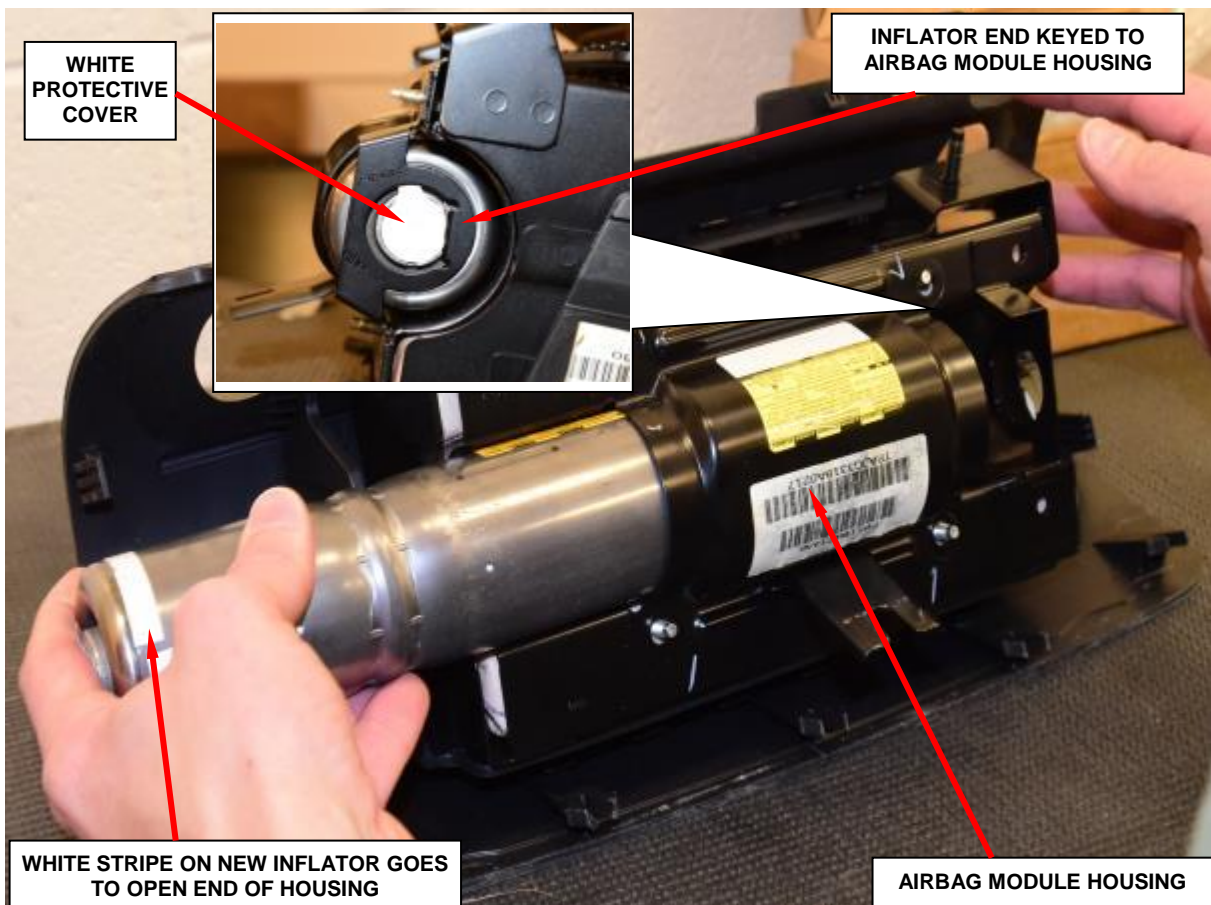

Figure 90 – Inflator Installation
NOTE: The inflator is keyed to fit into the housing. Ensure that when the new inflator is inserted, the keyed end goes in first (Figure 90).
- e. Slide the **NEW** inflator into the passenger airbag module housing. The keyed end is inserted first; therefore, the white stripe on the **NEW** inflator will be located at the open end (Figure 90).